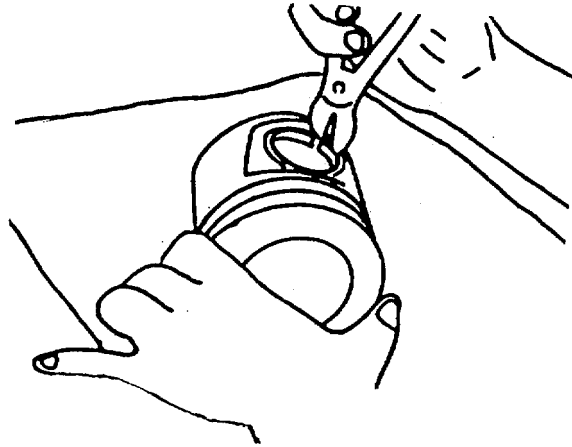

FIGURE 4-44. Install Retaining rings.
- a. Install retaining ring in the pin groove on the "FRONT" side of the piston as shown in FIGURE 4-44.